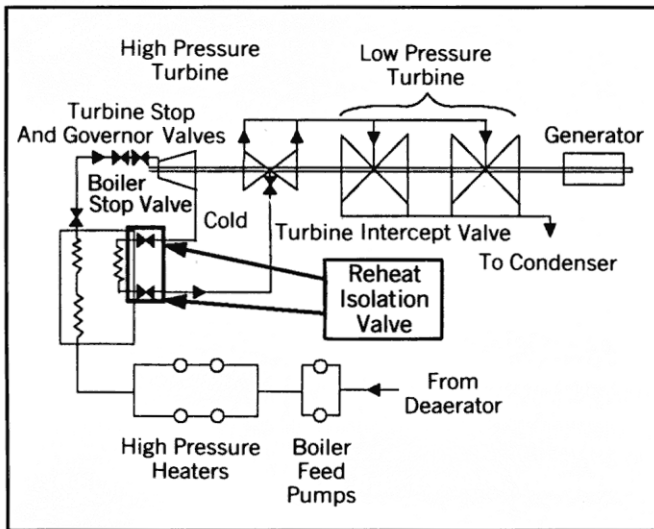

Figure 3 Typical location of reheater isolation valves.
2. The best way to prevent dissolved oxygen out-of-service corrosion damage is to prevent oxygen from entering the reheater tubing. Provide a means to isolate the reheater and to apply a nitrogen blanket when the unit is out of service (see Figure 3).